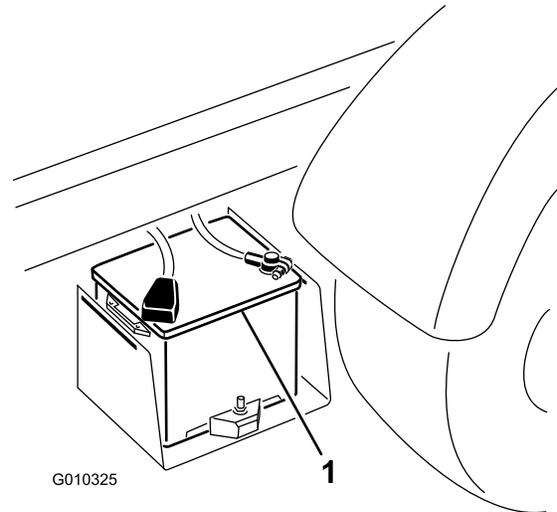

Figure 62
2. Connect a jumper cable between the positive posts of the 2 batteries (Figure 62).